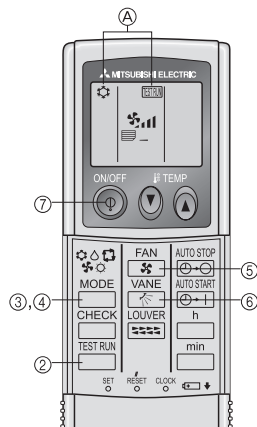

Fig. 6-2
6.2.2. Using wireless remote controller (Fig. 6-2)
- ① Turn on the power to the unit at least 12 hours before the test run.
- ② Press the button twice continuously.